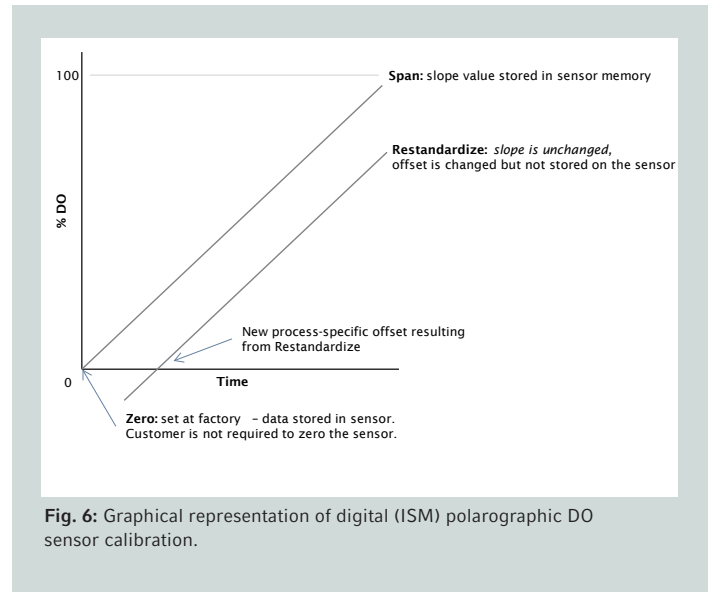
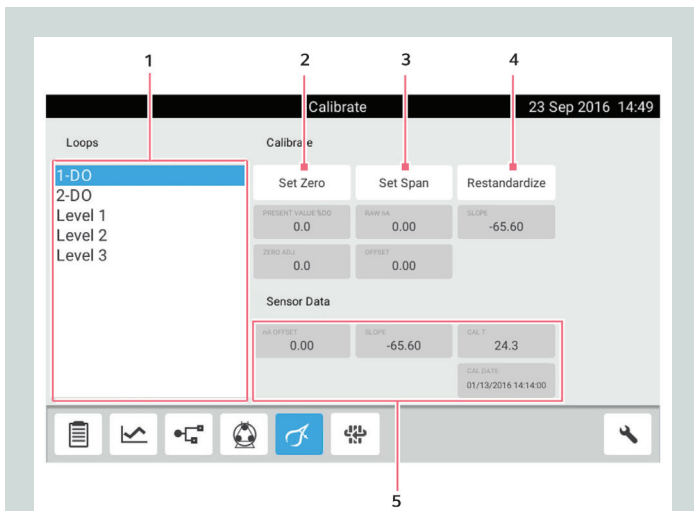

Fig. 6: Graphical representation of digital (ISM) polarographic DO sensor calibration.
Fig. 5: Digital polarographic DO calibration screen (BioFlo 120 shown. Note that the screen is nearly identical to what is seen on the BioFlo 320.)
Intelligent Sensor Management (ISM) technology from Mettler Toledo offers a range of benefits over the standard analog polarographic DO sensor, while the method of O₂ sensing remains identical. Most relevant to calibration is that the most recent calibration data is displayed on the BioFlo 120 and BioFlo 320 Calibrate screen (Fig. 5). In most cases Mettler Toledo recommends a 1-point calibration of their digital polarographic DO sensors, that involves a saturation value. This value is termed Span in the BCS software. The customer is not required to zero the sensor. The offset, or Zero, is set at the factory and Mettler Toledo recommends that Zero calibration is only performed if the customer's application requires high resolution at very low (<5 %) DO levels. Further, performing a 2-point calibration including the Zero point may cause erratic readings. Figure 6 shows the function of calibration buttons and how they differ from analog sensors.
- > To establish the correct loops on the controller, consult the BioFlo 120 or BioFlo 320 operating manual, as appropriate. Fig. 5 displays the calibration screen for a connected digital ISM polarographic DO sensor.